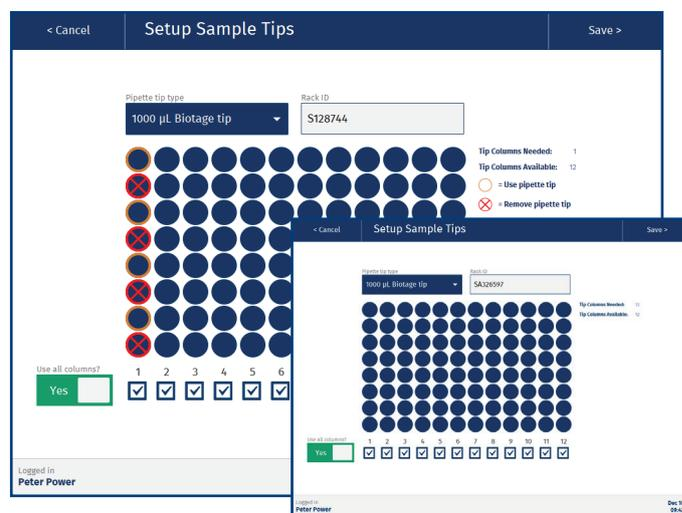

Figure 63. The Setup Sample Tips view when running full plate/rack columns (in the front) and when running individual samples (in the back).
18. Press the illustration of the sample pipette tips in the **Prepare Run** view (position **2**) and ensure that the **Setup Sample Tips** view (see Figure 63) corresponds to the physical pipette tip rack holder in position **2** on the working area.
If running individual samples, it is important that the pipette tips are loaded correctly. The software highlights the positions that must contain pipette tips and the ones that must be empty; see Figure 63.